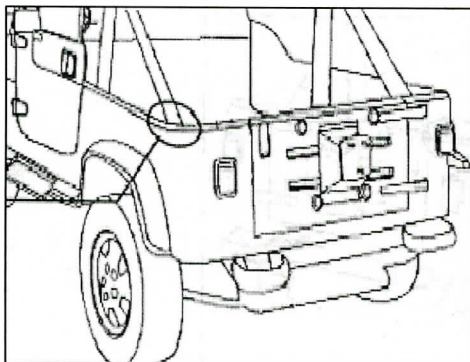

Figure 7
8. Locate Passenger Corner Side Rail, (2) – 5/16" – 18 Torx Screws, (2) – M8 Flat Washers, and (2) – 5/16" – 18 Tapping Plates. Position Corner Side Rail onto vehicle and secure it by using hardware listed in this step (Figure 7 & 8). Repeat this step for opposite side.